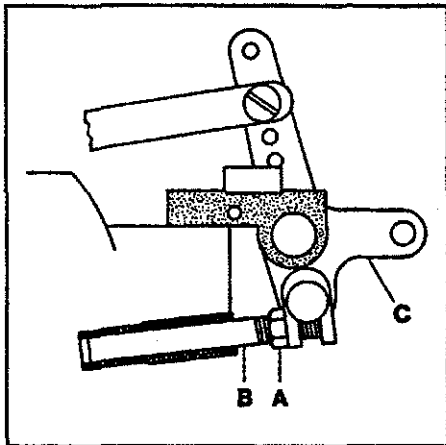
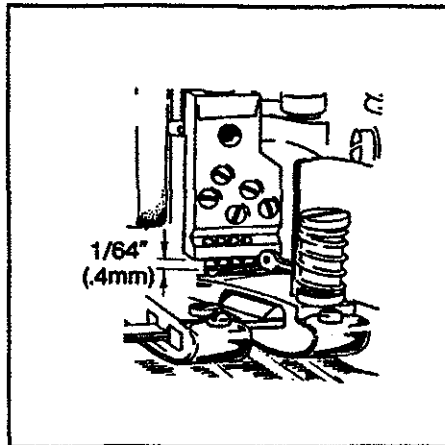

FIG. 23
FIG. 24
The presser foot lifter stop plunger must be set so the hook will not hit the bottom of the needle head as the presser foot is being lifted. Position the needle bar to its lowest point of travel. Loosen nut (A, Fig. 23) and turn plunger (B) clockwise until it strikes the crankshaft counterweight. While applying pressure to lifter (C) to lift the foot, back out of the plunger until the distance between the hook and the underside of the needle head is  $1/64$ " (0.4mm) (see Fig. 24). Tighten nut (A, Fig. 23).